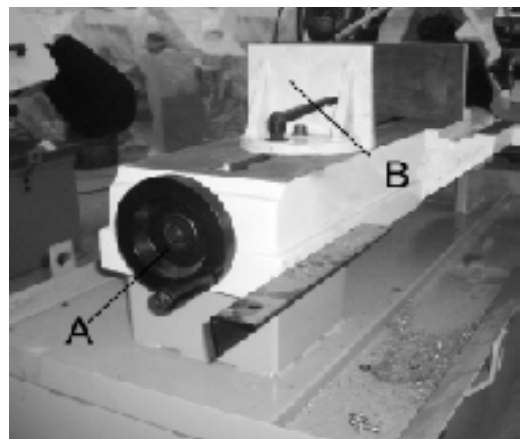

Fig.12
Your machine is equipped with a “quick action” vise jaw which allows you to instantly position the moveable vise jaw (B) Fig.12. Simply turn hand wheel (A) counterclockwise 1/2 turn and move the vise jaw (B) to the desired position. Then tighten the vise (B) against the workpiece by turning hand wheel clockwise. The vise can be adjusted to cut any angle from a straight 90 degree cut-off to a 45 degree angle by loosening the two spring-loaded clamp handles (one located on each vise jaw), positioning the vise jaws to the desired angle and tightening the tow spring-loaded handles. The right vise jaw is provided with positive stops to instantly position the jaw at 90 or 45 degrees. To check and adjust the positive stops proceed as follows: